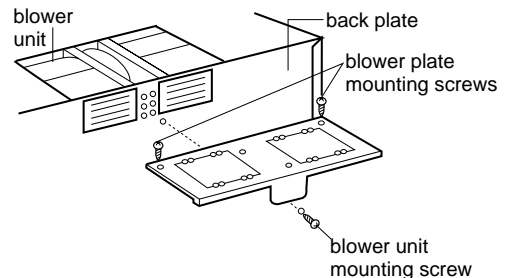

Figure 11
1. Remove one blower unit mounting screw and two blower plate screws. Remove the blower plate from cabinet. See Figure 11.